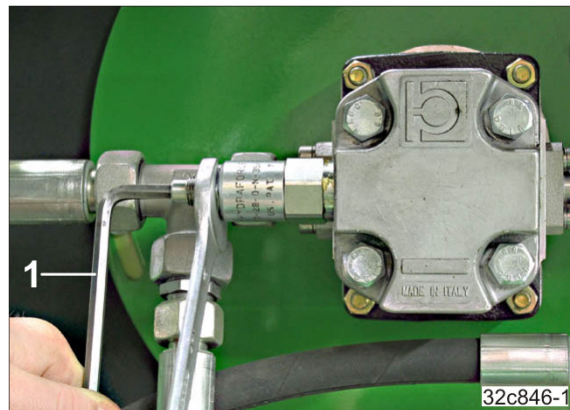

Fig. 222
1. Loosen the lock nut (Fig. 222).
2. Adjust the pressure relief valve to the factory-set dimension "21 mm" (Fig. 222).
- 2.1. Turn the bolt with the hexagon socket wrench (Fig. 222/1) accordingly.